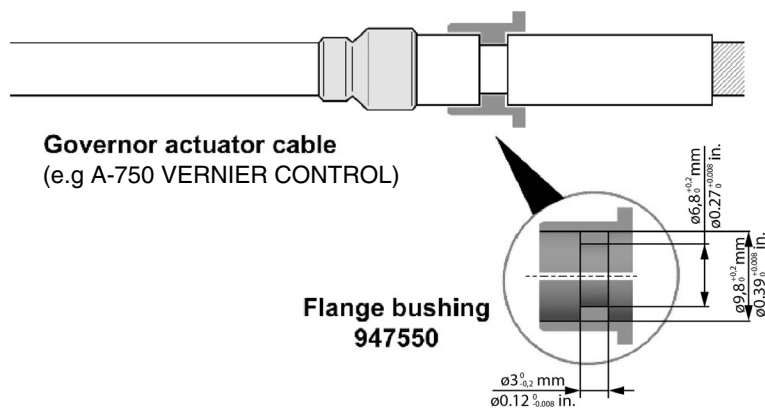

Fig. 3
- Place the governor flange bushing halves onto the governor actuator cable (see fig. 3), seating the inner bushing lip into the machined slot on the governor cable ferrule.